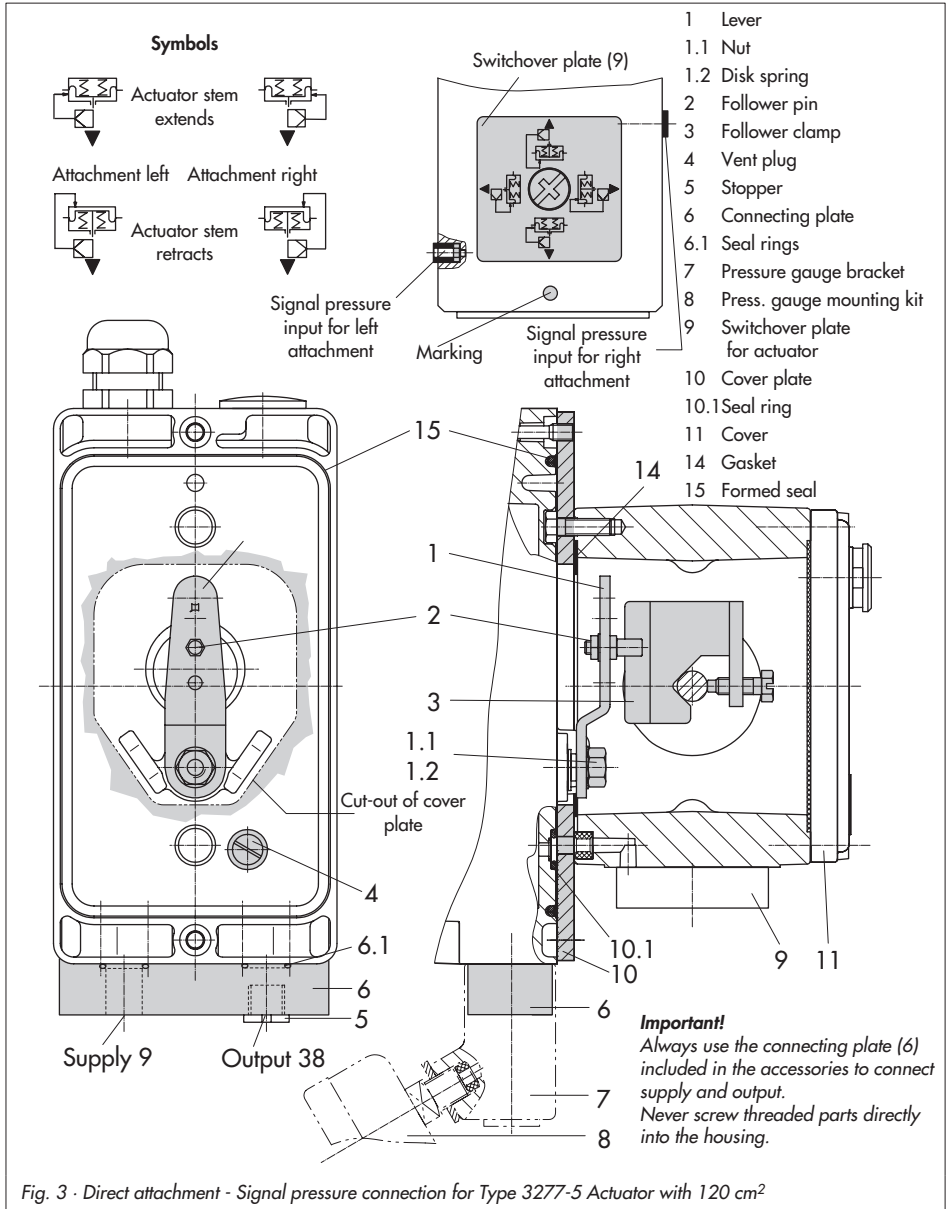

Fig. 3 · Direct attachment - Signal pressure connection for Type 3277-5 Actuator with 120 cm2
1. Mount connecting plate (6) or pressure gauge bracket (7) with pressure gauges onto the positioner, making sure both seal rings (6.1) are seated properly.
2. Remove vent plug (4) on the back of the positioner and close the signal pressure output "Output 38" on the connecting plate (6) or on the pressure gauge bracket (7) with the stopper (5) included in the accessories.
3. Place follower clamp (3) on the actuator stem, align and screw tight so that the mounting screw is located in the groove of the actuator stem.
4. Mount cover plate (10) with narrow side of the cut-out opening (Fig. 3, on the